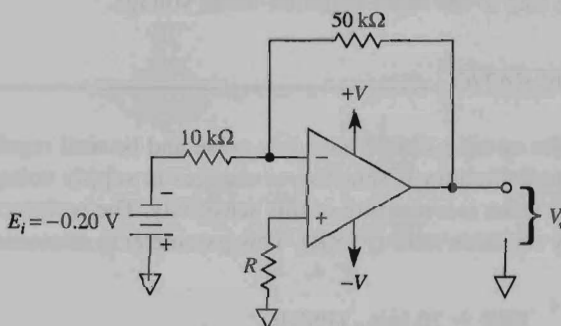

FIGURE P9-16
- 9-16. Refer to Fig. P9-16. $V_{io} = 3\ \text{mV}$, $I_{B-} = 0.4\ \mu\text{A}$, and $I_{B+} = 0.1\ \mu\text{A}$. (a) What is the best value for resistor R ? Calculate the individual error in the output voltage, V_o , due to (b) V_{io} only; (c) I_{B+} only; (d) I_{B-} only; (e) I_{os} only. The ideal value of V_o should be $1.00\ \text{V}$ because of E_i . (f) What is the actual value of V_o when both input offset voltage and current are present along with E_i ?